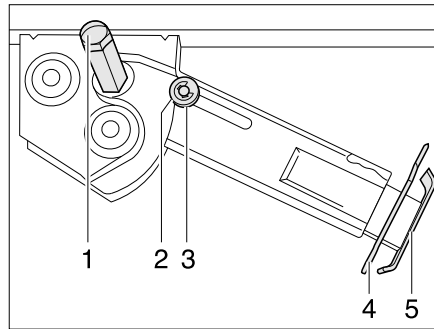

Fig. 39 Steady leg
- Place the socket spanner on the hexagonal nut (Fig. 39,1) and rotate until the steady leg is in a perpendicular downward position.
- Remove the splint (Fig. 39,4) out of the support foot extension (Fig. 39,5).
- Place the socket spanner on the hexagonal nut (Fig. 39,1) and rotate until the steady leg is clear of the ground.
- Push in the support foot extension (Fig. 39,5) and insert the splint (Fig. 39,4) in the drilled hole in the support foot extension.
- Rotate the hexagonal nut (Fig. 39,1) with the socket spanner until the steady leg has swung upwards and the guide disc (Fig. 39,3) has completely retracted into the notch (Fig. 39,2).